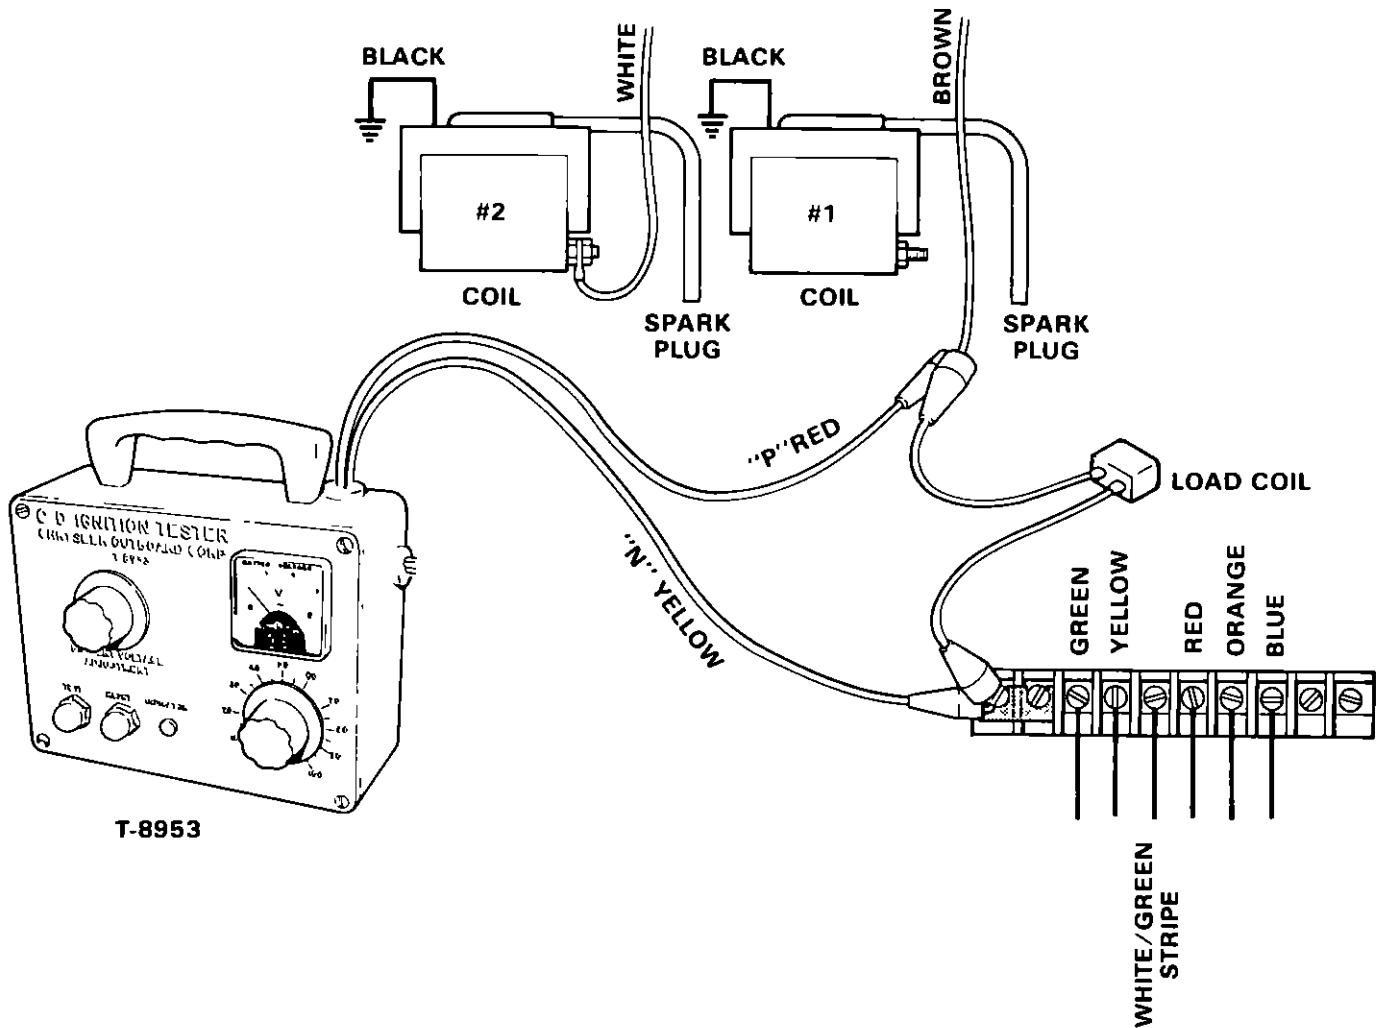

Figure 9
- 2 Clip one lead of load coil to brown wire from C-D unit. Clip other load coil lead to ground terminal at terminal block, Figure 9
C-D unit (same wire as load coil in Step #2), Figure 9
- 4 Connect Tester "N" lead (yellow) to ground terminal, Figure 9